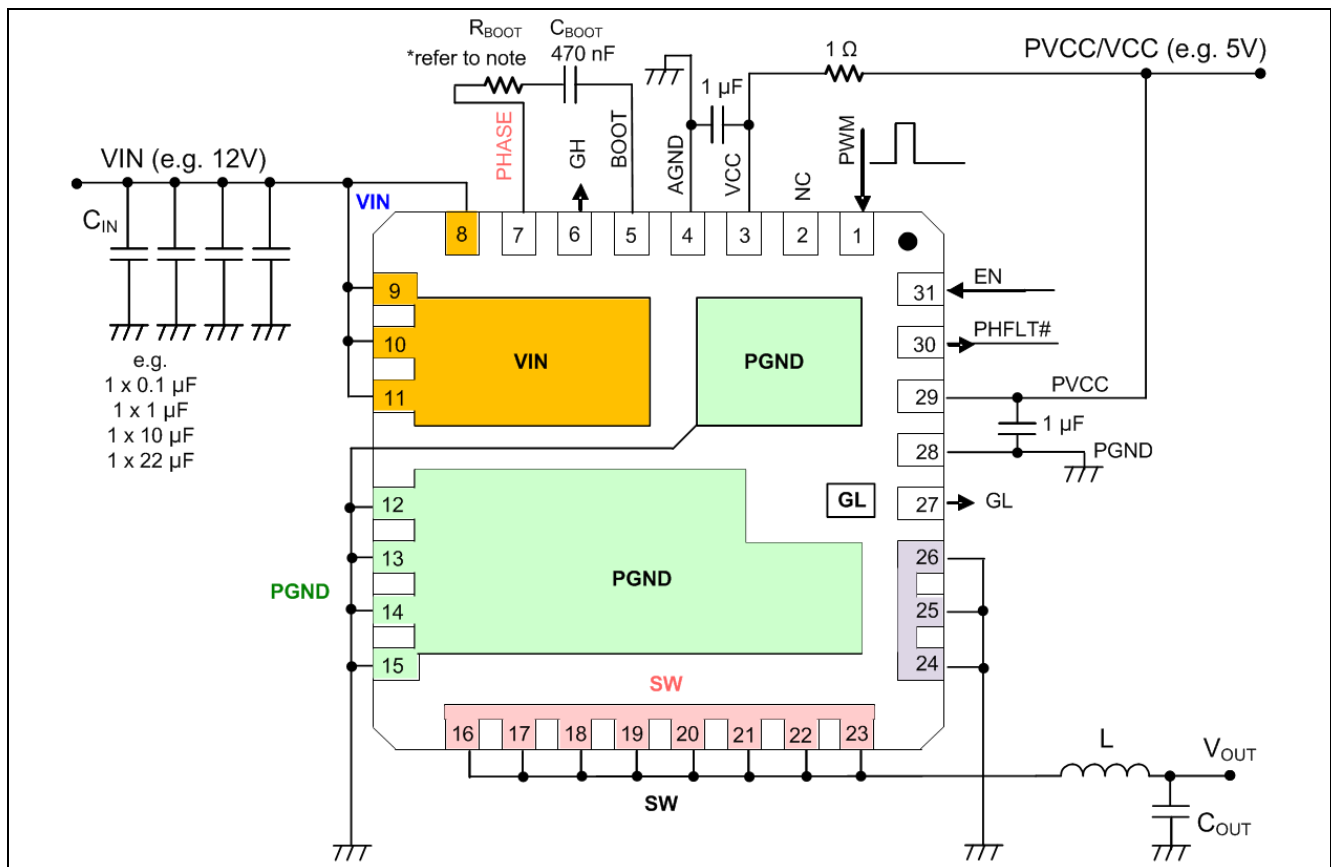

Figure 6 Pin Interconnection Outline (example, transparent top view)
3 In telecom applications the recommended maximum voltage for  $V_{IN}$  is 13.2V unless a boot resistor is used (see Figure 6) to limit the voltage spike  $V_{PHASE-V_{PGND}}$  (AC) to 26V.